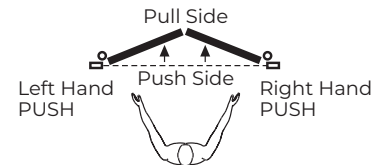

Figure 2
1. Determine if push or pull and if left hand or right hand installation. (Figure 2)